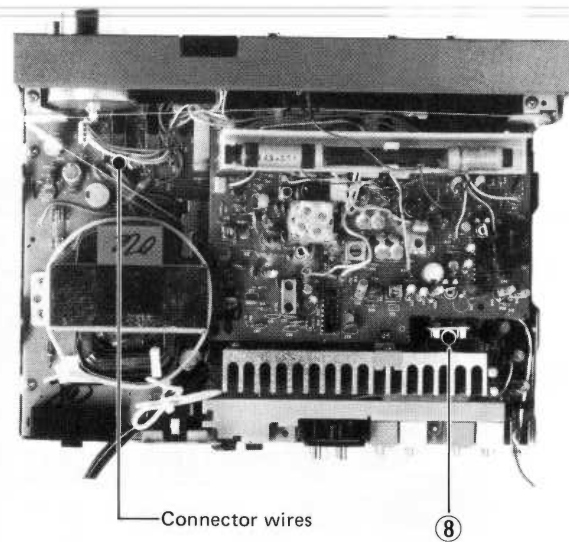

Fig. 18
- (1) Remove 7 screws = SHSP3006R fixing the front cover. (left and right sides, — each 2 p.c.s. (4) on bottom, — 5 p.c.s. (5))
- (2) Remove the tuning knob (6) and 4 VR knobs (7).
4. Tuner P.W.B. ass'y (Fig. 18, 19)